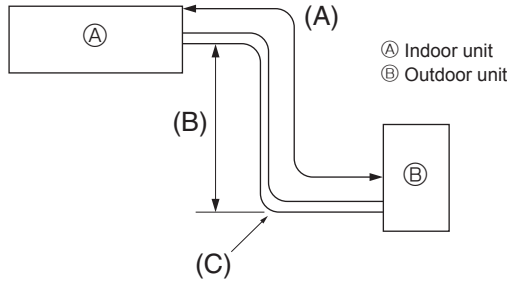

Fig. 4-1
4.1. Refrigerant pipe (Fig. 4-1)